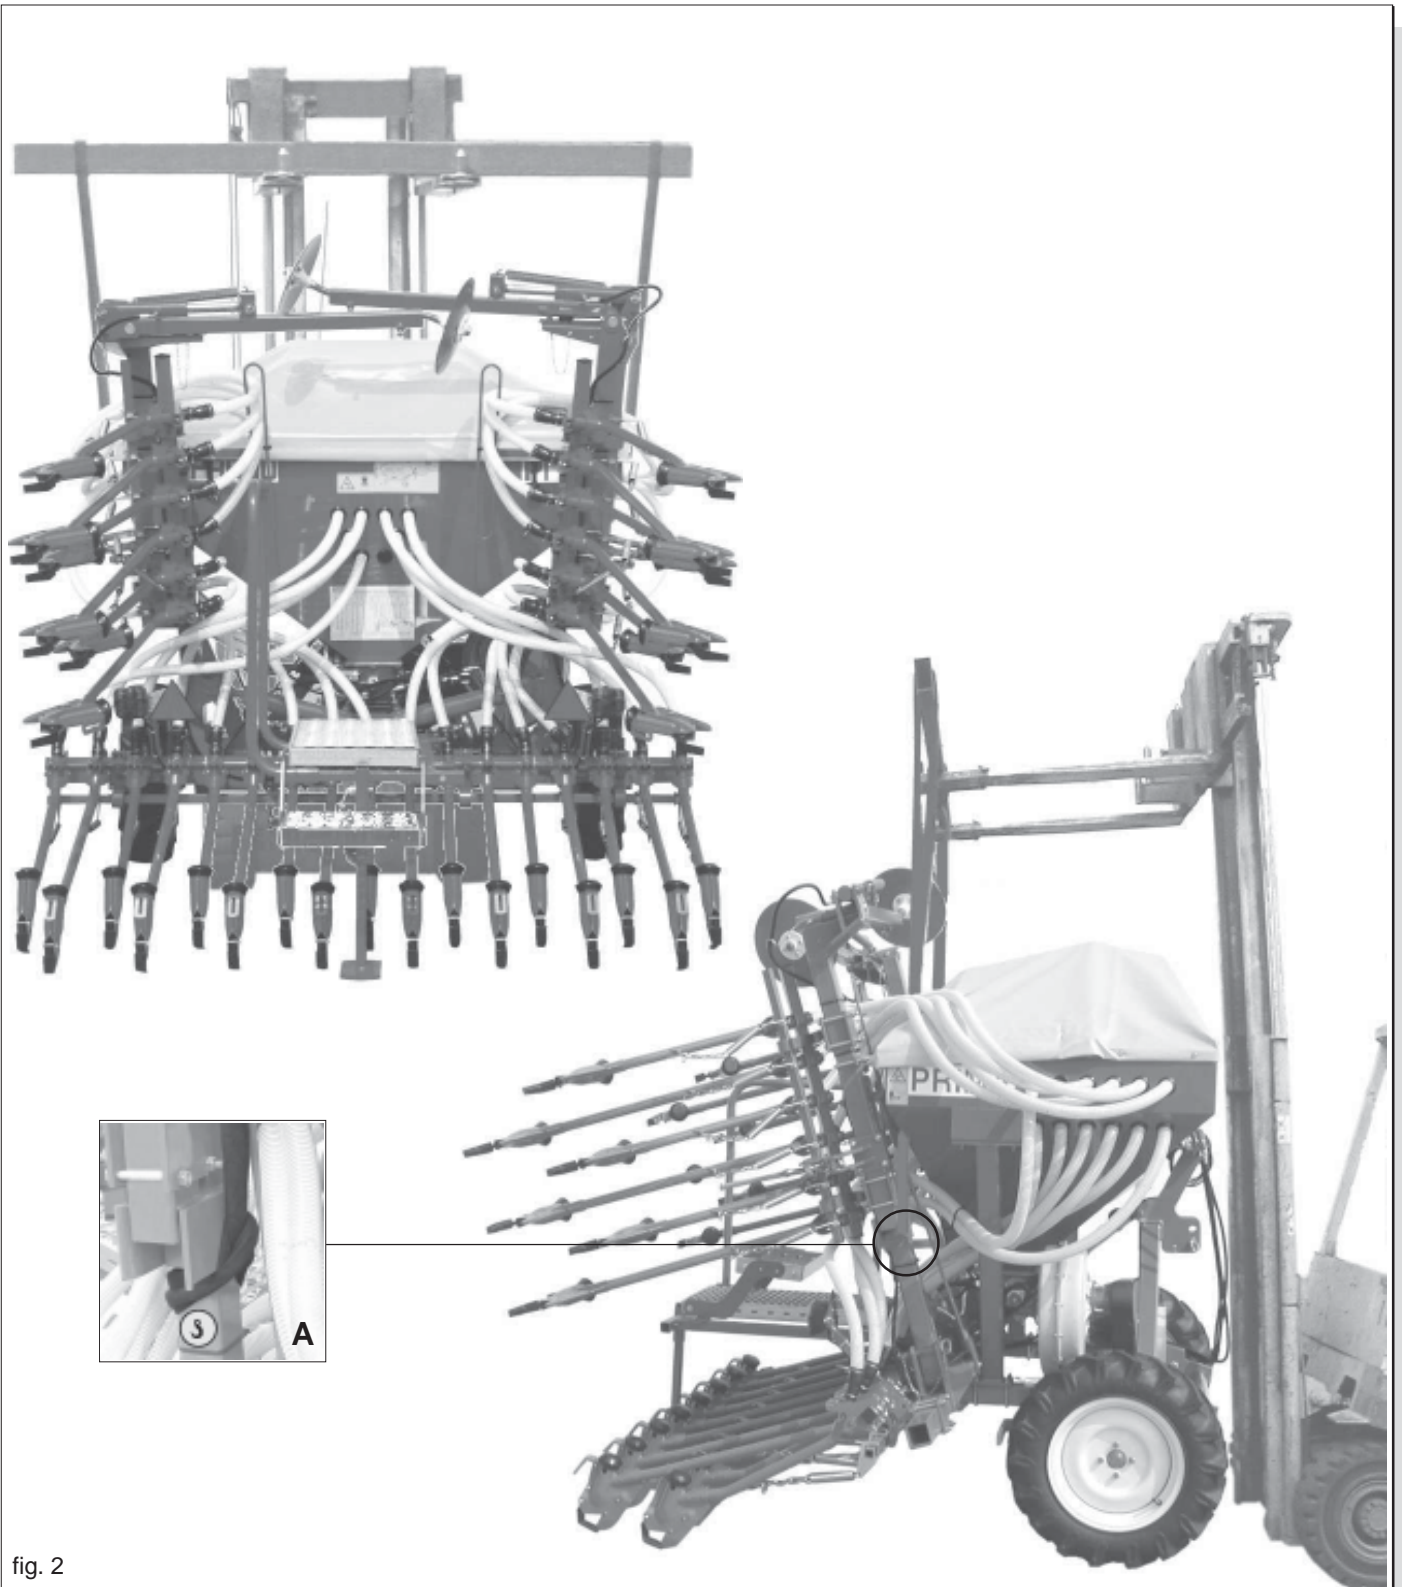
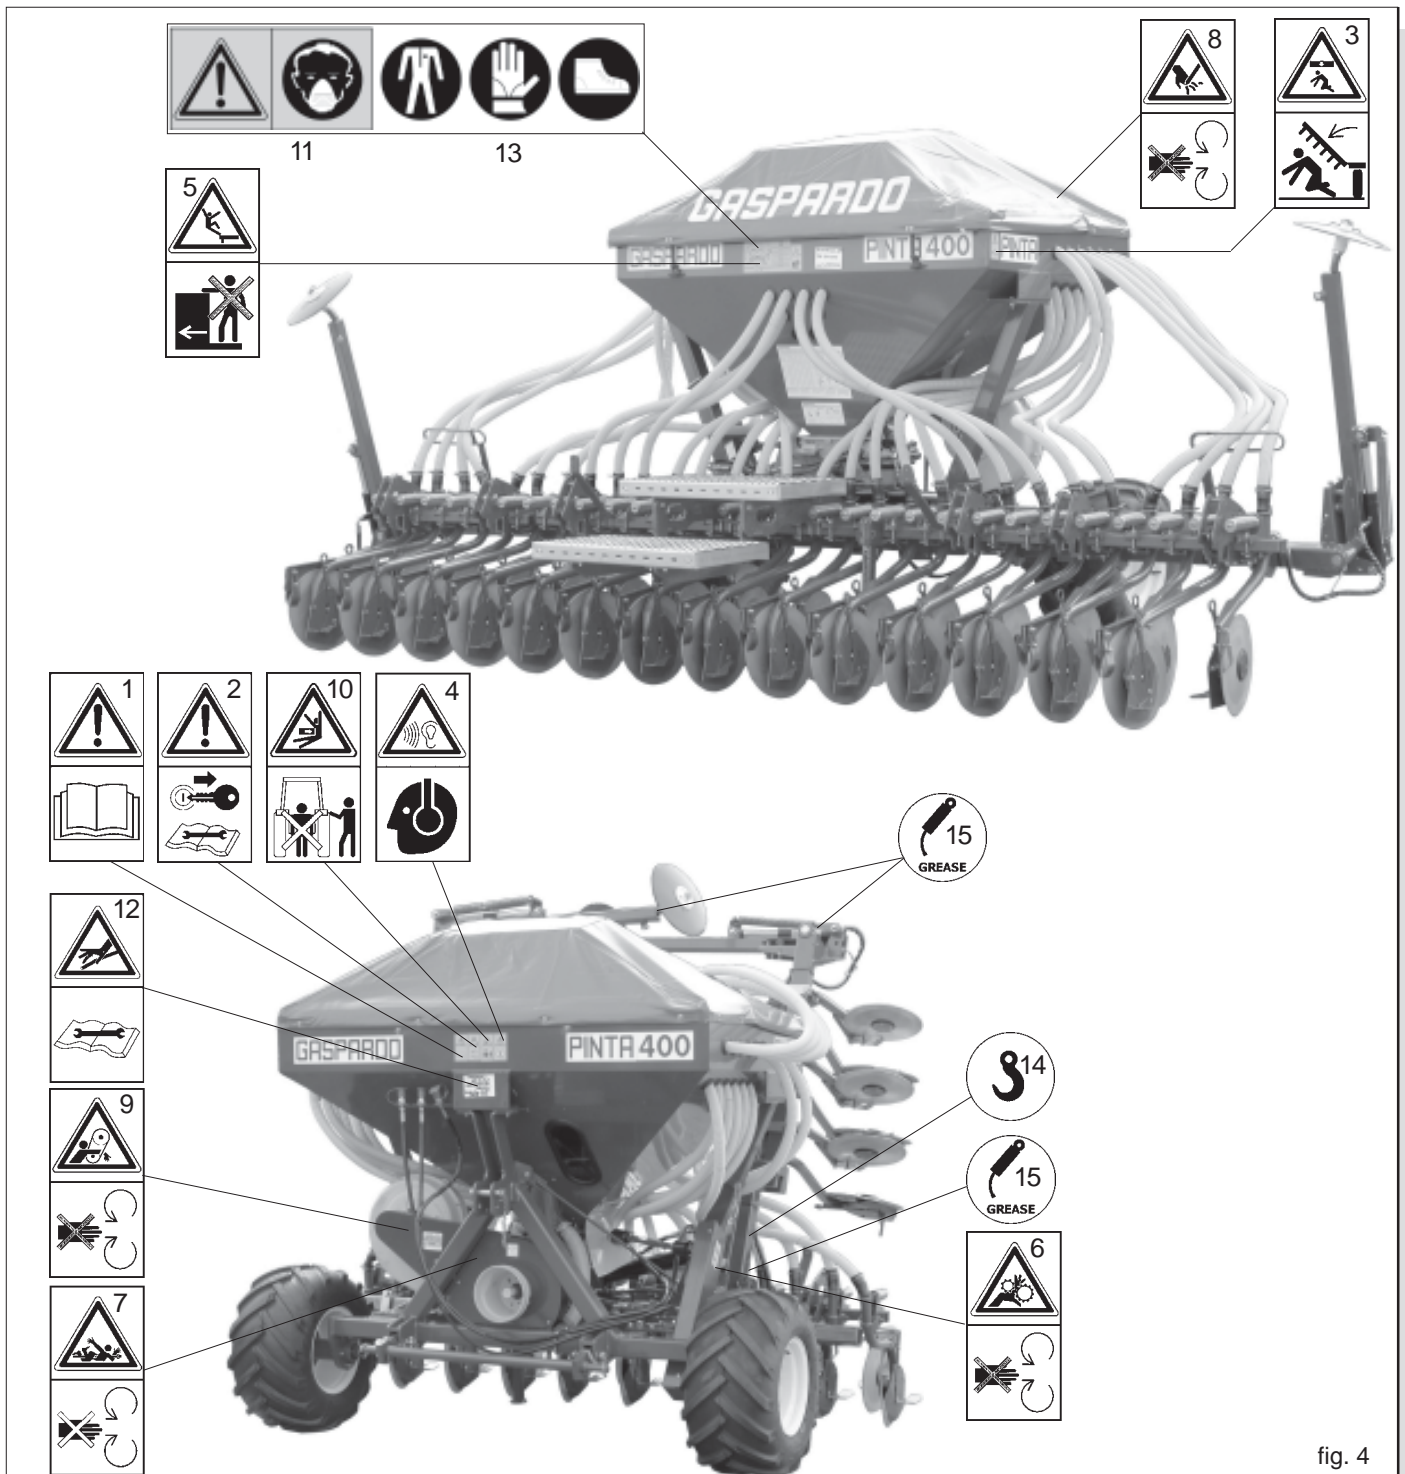

fig. 2
fig. 4
If the machine is handled, it must be lifted by hooking onto the appropriate holes (A) (Fig. 2) with a suitable winch or crane of sufficient capacity. Because of the danger involved, this operation should be carried out by trained and responsible personnel. The mass of the machine is on the identification Plate (Fig. 1). Stretch the rope to keep the machine level. The hook points can be detected by finding the «hook» symbol (9 Fig. 4).
The signs described are reproduced on the machine (Fig. 4). Keep them clean and replace them if they should come off or become illegible. Carefully read each description and learn their meanings by heart.